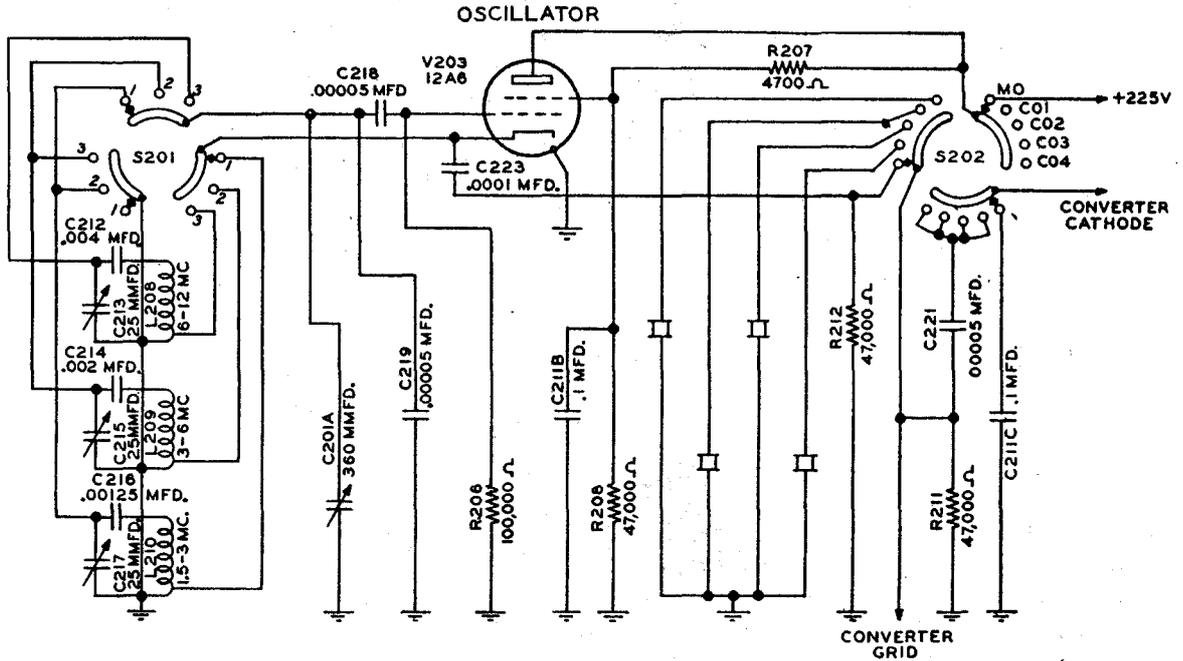

Fig. 7. H-F Oscillator Circuit (Dwg. 500 0140 00A)
2.3.6.1. Refer to Figure 7. The oscillator stage employs a Type 12A6 beam power amplifier tube. When MO reception is selected by the operation of the OSCILLATOR SELECTOR switch, S202, the oscillator tube, V203, is brought into operation. The separate oscillator tube is employed to excite the converter for best results when operating at high frequencies. The grid tank circuit selector switch, S201, is operated by the BAND SWITCH and selects the tank circuit that will tune the oscillator to a frequency 455 kc